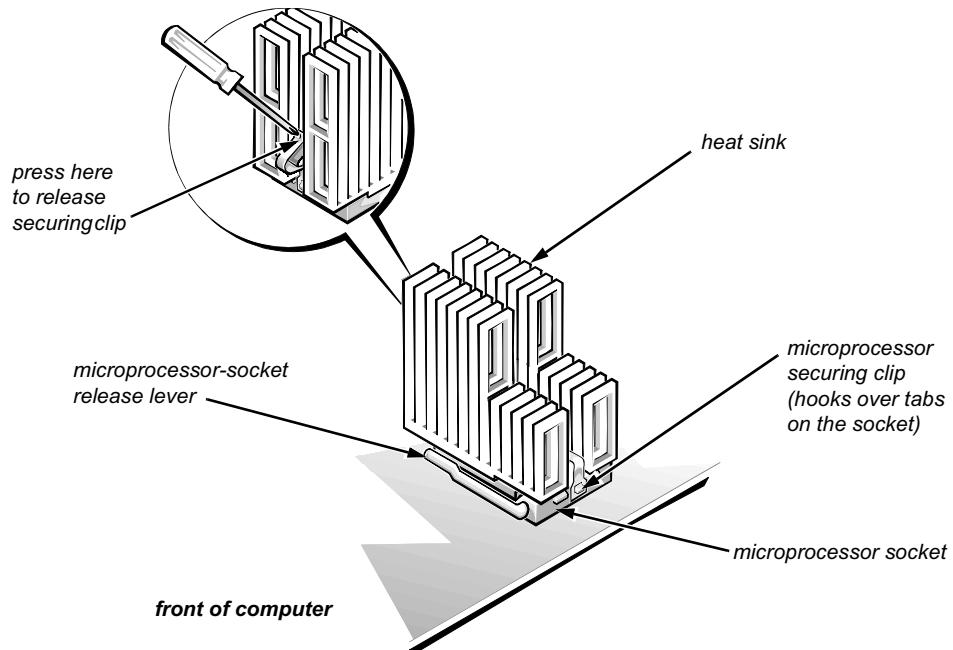

Figure 5-21. Microprocessor Securing-Clip Removal
2. **Remove the microprocessor securing clip from the microprocessor/heat sink assembly (see Figure 5-21).**